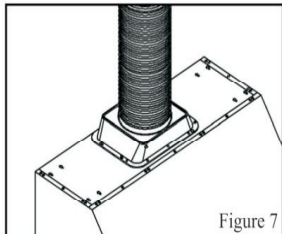

Figure 7
3.Use 8"round steel pipe(follow building codes in your area) to connect the exhaust on the hood to the duct-work above.Use silver tape or duct tape to make all joints secure and air tight.Refer to Figure 7.